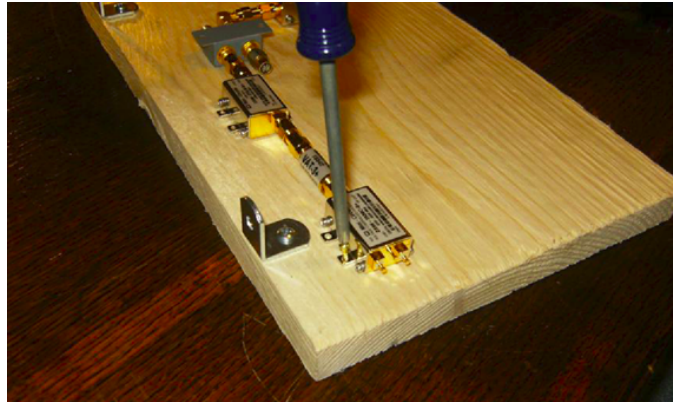

Figure 7: An example layout of the RF components on the wood board.
7. Lay the above components down on to the wood board. Use #2 wood screws to fix the microwave components on the wood board. Fig. 7 shows an example; your board doesn't have to look the same.